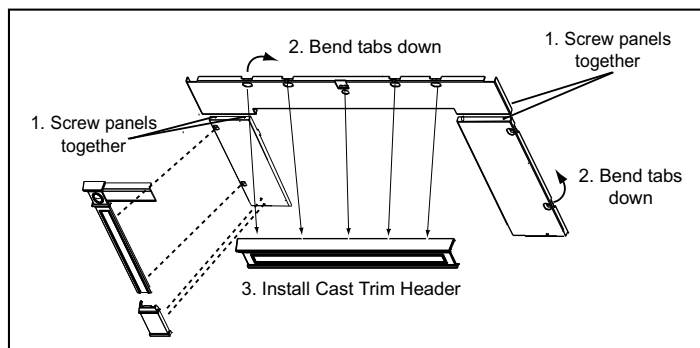

Figure 20.1
4. Now bend the tabs down toward the backside of the panel set, 5 on top and 2 on each leg. Leave the panel set face down. **Figure 20.1.**